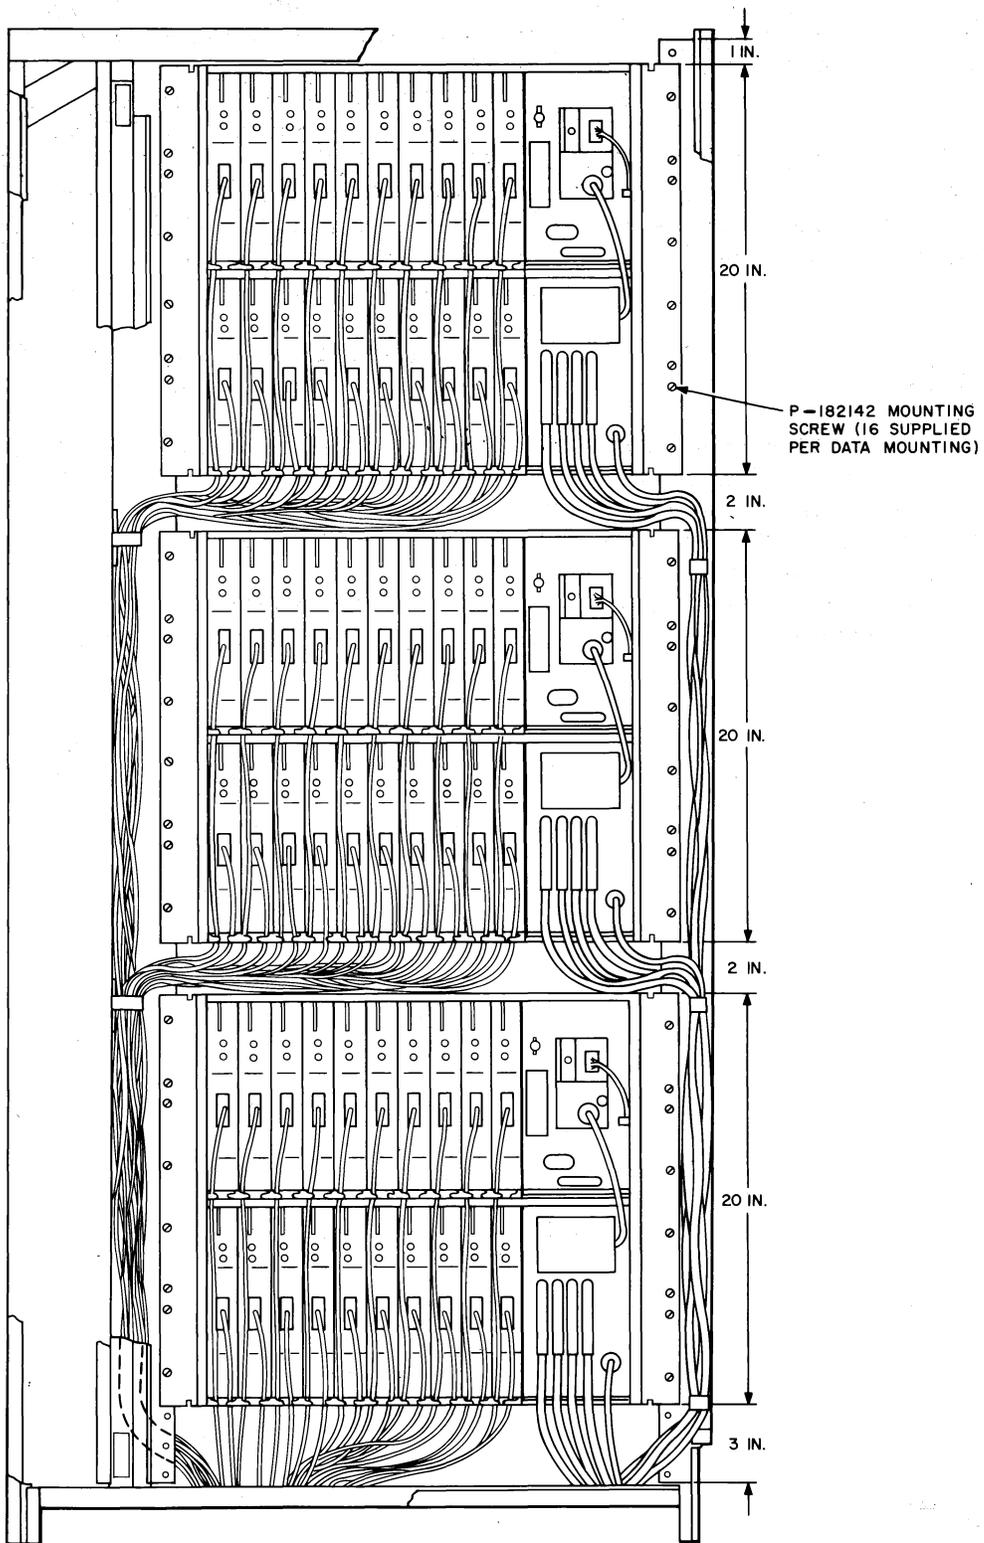

Fig. 5—113-Type Data Station Mounted in a KS-20093-L1 Cabinet
- (1) Align the first 32A1 data mounting to be installed in the cabinet so that the top mounting hole of the 32A1 data mounting is directly over the third hole from the top of the cabinet mounting bracket as shown in Fig. 5.
- (2) Using at least eight of the sixteen P-182142 (12-24 by 1/4 inch) BHM mounting screws (supplied with the 32A1 data mounting), mount the 32A1 data mounting to the cabinet.
- (3) Tighten all mounting screws.
- (4) Align the second 32A1 data mounting to be installed so that the top of it is two inches below the bottom of the first and repeat Steps (2) and (3).